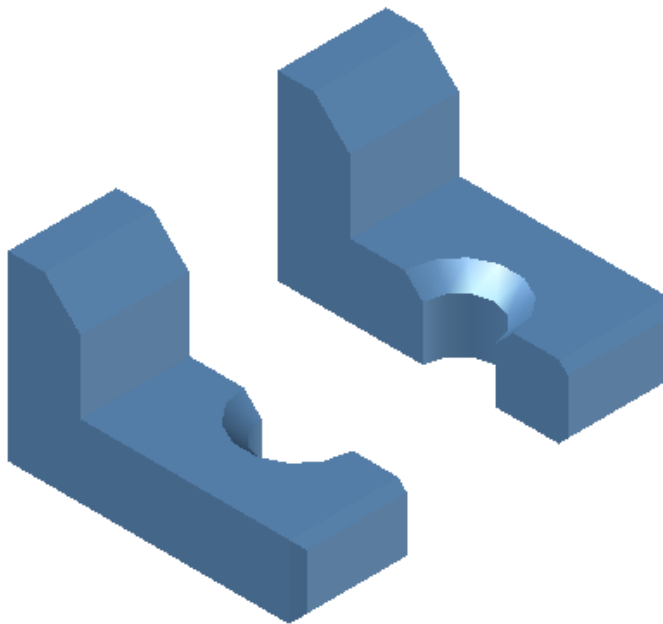

Figure Step 8
Step 8 Using the MOVE command, move the right half away from the left half. The distance you move it is not important. (Figure Step 8)